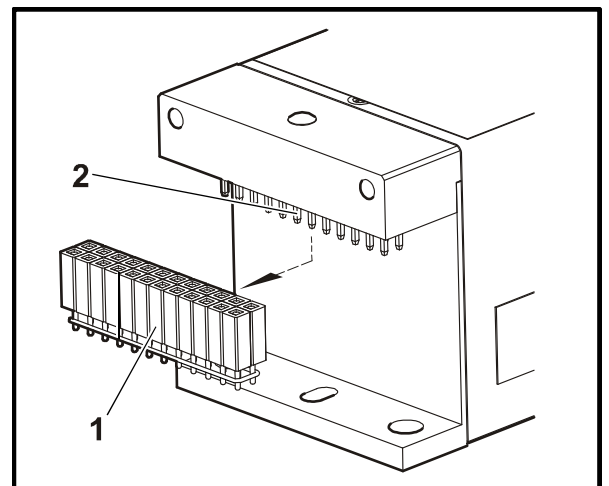

Fig. 22 **Preparing the laser module for transportation / storage**
- Ship the laser with the connecting cable. If only the laser module has to be shipped plug the transport connector (Fig. 22/1) into the laser connector on the laser module (Fig. 22/2).